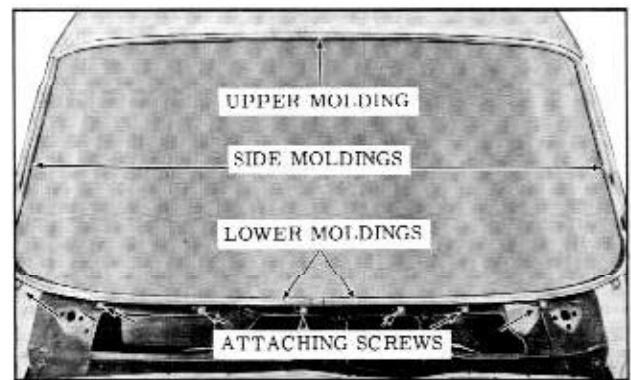

Fig. 17-3 Windshield Reveal Moldings
The windshield reveal moldings consist of a one piece upper, right and left side and right and left lower moldings. On all styles except "67" and 3239 and 3539 styles, the upper and side moldings are secured to the opening by clips. The side moldings on the "39" styles are secured to the windshield pillar and side roof rails by screws, which are hidden by the side roof rail and windshield weatherstrip retainer. On "67" styles the upper reveal molding is secured to the upper windshield frame by screws at each end and studs and nuts in the center. The side moldings on "67" styles are secured to the windshield pillars by screws. The lower moldings on all styles are secured by screws through the molding clips into the shroud upper assembly. (Fig. 17-3)
5. Remove lower reveal molding attaching screws (Fig. 17-3) and remove the molding.